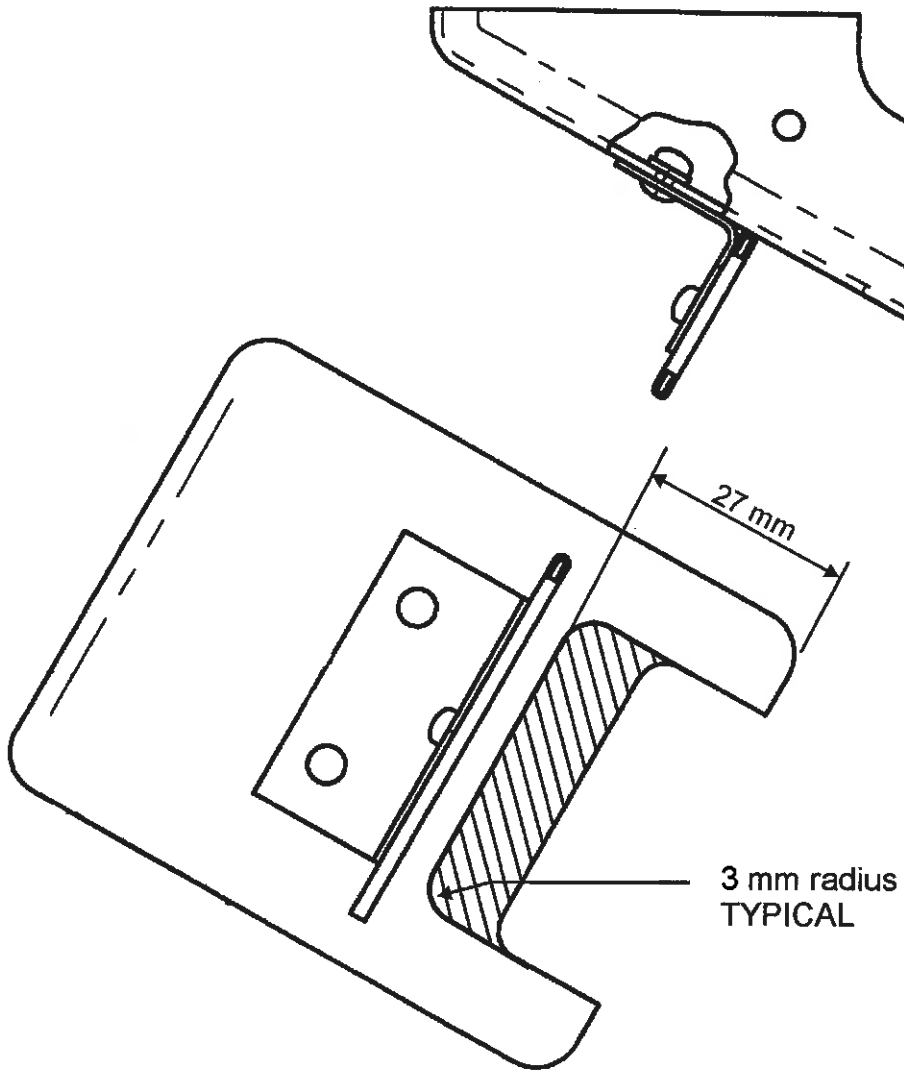

FIGURE 2 LATCH BLOCK COVER ON FIXED CANOPY
2. Carefully cut away the material shown shaded in Figures 2 and 3.